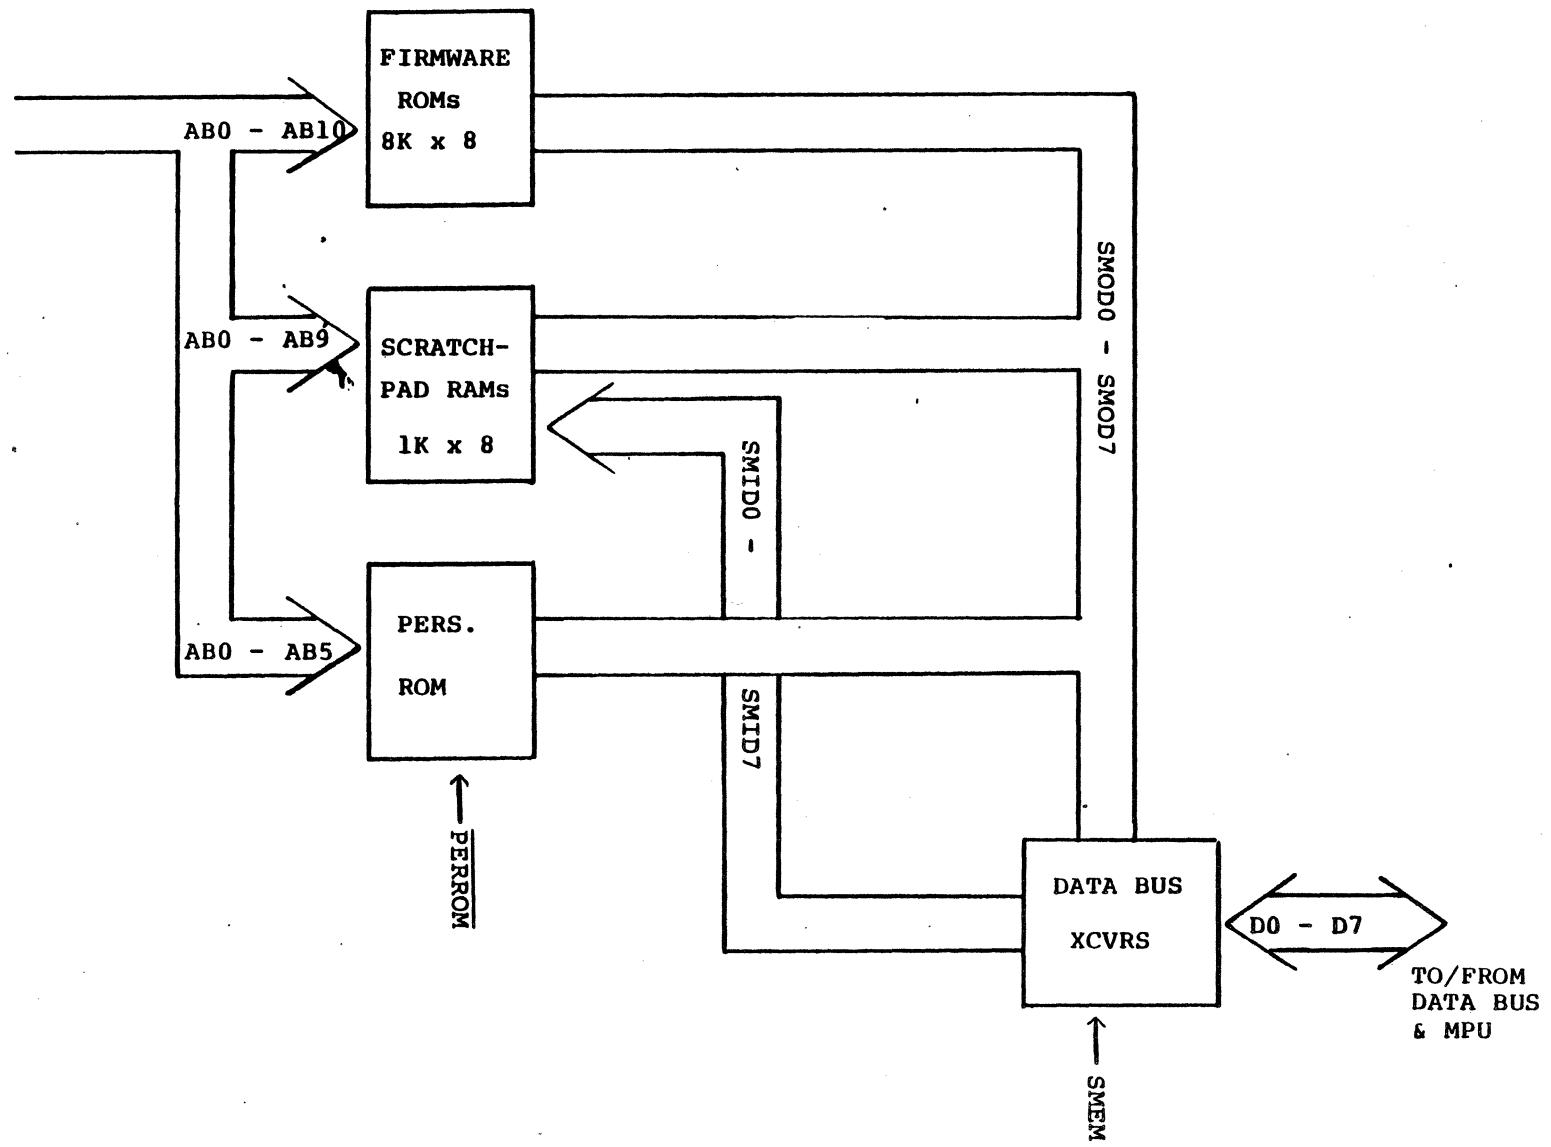

Figure 6-7. System Memory Board
**6.3.3 System Memory Section (Figure 6-7;